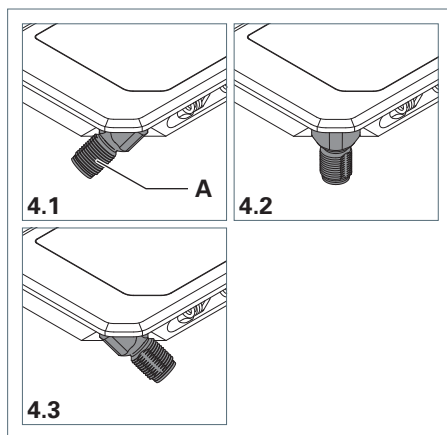

Fig. 4: APE – Positions of the plug.
- ▶ Turn the plug **A** to the intended position, see Fig. 4.